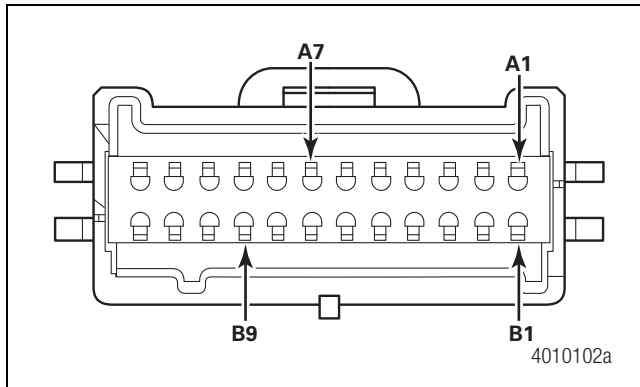

Figure 2.10
1. Disconnect the vehicle side of the LDW connector and measure for voltage from terminal A7 to the ground terminal B9. Figure 2.10.